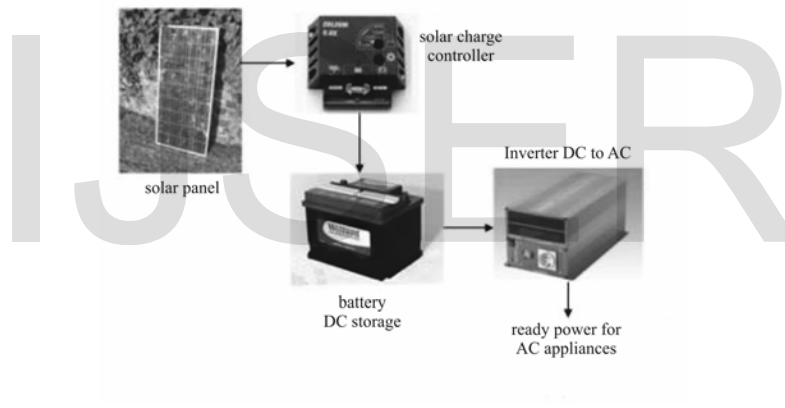

Figure 3: 4 basic components that make up a Solar PV system
Photovoltaic (PV) system. This system has 4 basic entities as illustrated in figure 3: